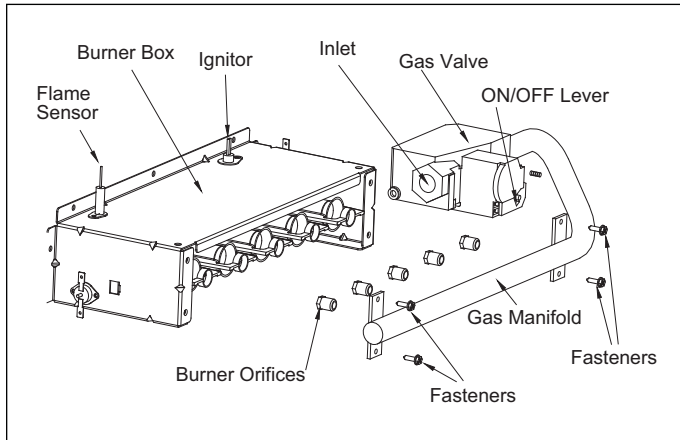
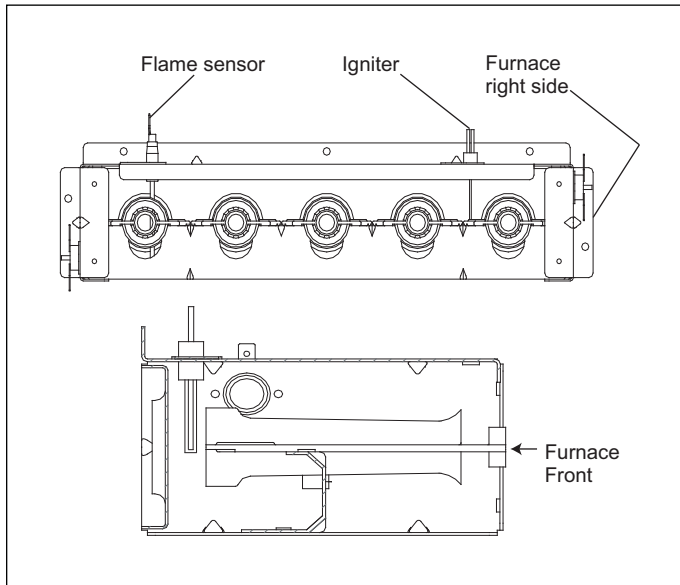

Figure 1 Typical furnace installation
Figure 2 Igniter position
1. Remove the four (4) fasteners that secure the gas manifold to the burner box, as shown in Figure 1. Carefully remove the gas manifold assembly from the burner box. Note that the gas manifold assembly consists of the gas valve, the gas manifold, and the orifices.
2. Carefully remove the burner orifices from the gas manifold, as shown in Figure 1.
1. Reinstall the gas manifold assembly to the burner box with the four (4) fasteners, which were removed earlier.
2. After installing the burner, inspect the alignment of the burners with the heat exchanger tubes. The center of the burners should be aligned with the center of the tubes. For the igniter and flame sensor position refer to Figure 1 and Figure 2.